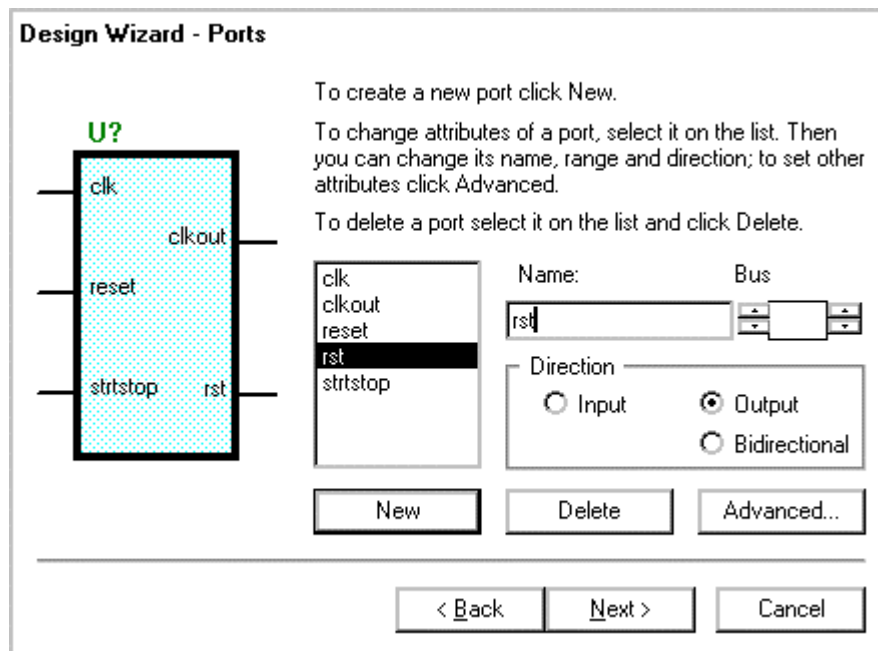

Figure 3. The “Ports” window with the ports correctly entered.
- 8) After all the ports have been entered correctly, the “**Ports**” window should look like Figure 3. When the “**Ports**” window has been checked, click on the “**Next**” pushbutton.